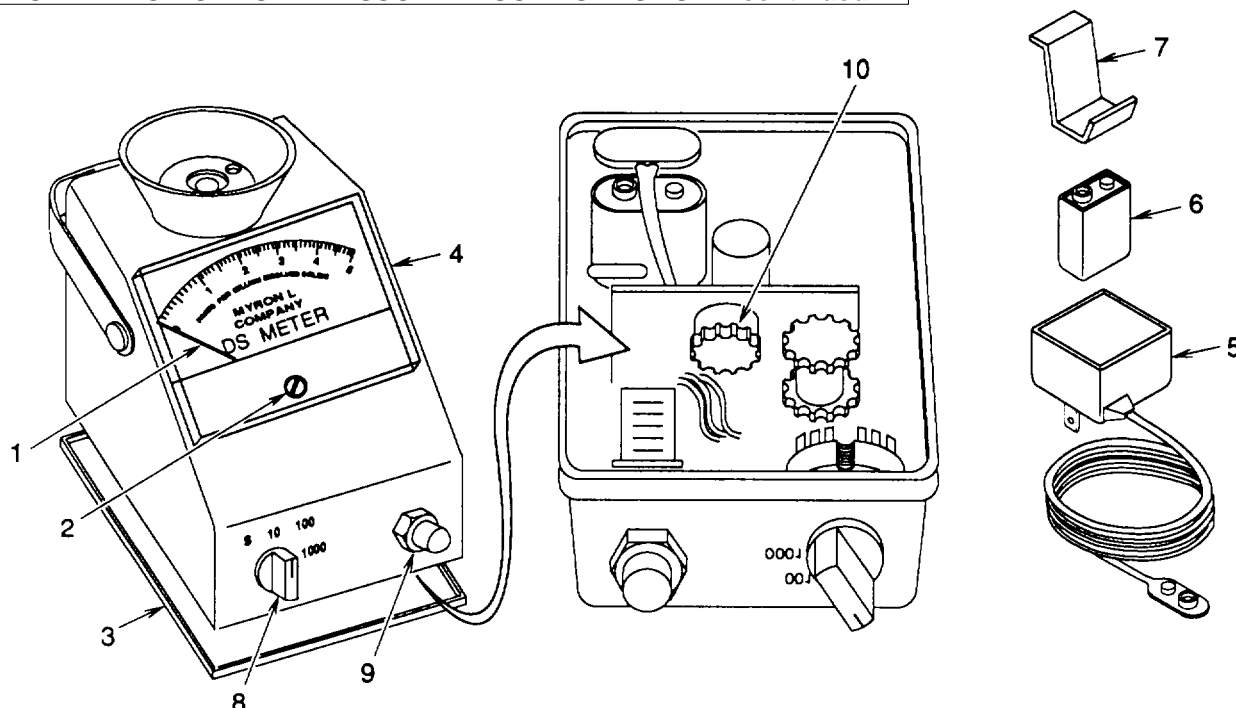

Figure 2-5. Total Dissolved Solids Meter
- b. Set up the meter. See figure 2-5.
- (1) With meter off, adjust pointer (1) to zero by turning meter zero adjust screw (2).